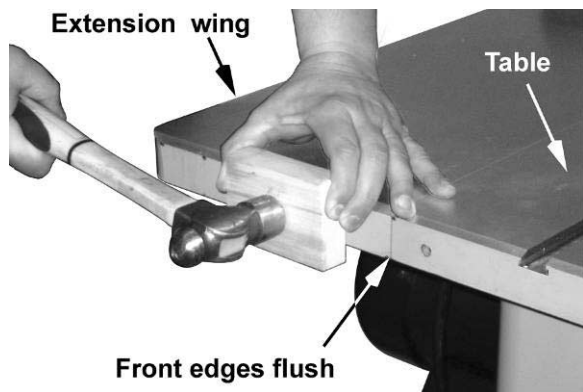

Figure 2
1. Mount a *cast iron extension wing* (A) to the right or left side of the *table* (B) using three each  $3/8$ -16x1 *hex head screws* (C),  $3/8$  *lock washers* (D) and  $3/8$  *flat washers* (E). Have an assistant hold the extension wing up to the table while inserting the screws and washers. Finger-tighten only.
3. Make sure that the *front edge* of the extension wings are flush with the front edge of saw table (Figure 2).